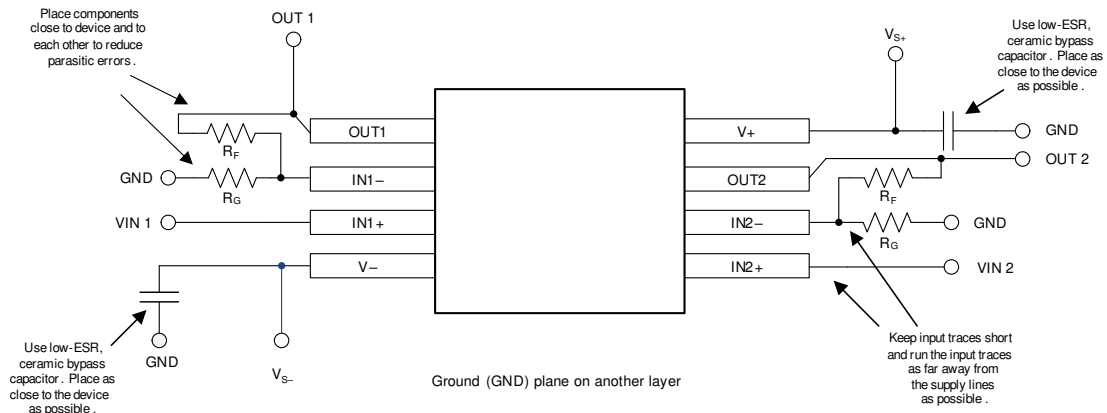

Figure 7-12. Layout Example
- Place the external components as close to the device as possible, as shown in Figure 7-12. Keeping R_F and R_G close to the inverting input minimizes parasitic capacitance.